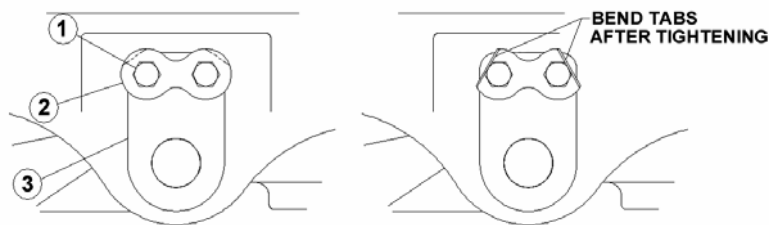

FIGURE 5
7. Install the pivot pins (item 3) aligning the flange with the threaded holes in the topplate casting.
8. Align a locking tab (item 2) with each pivot pin and install the ½-13 hex head cap screws (item 1) thru the locking tabs, the pivot pin flange and into the topplate casting ears.
9. Bend the locking tabs over each cap screw as shown in figure 5.